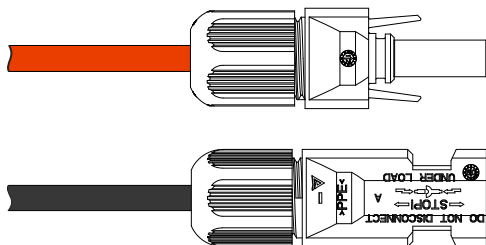

Figure3-19 Tighten the sealing nuts
Step 4 Tighten the sealing nuts of positive connector and negative connector to the corresponding insulation crusts respectively, as shown in Figure3-19.